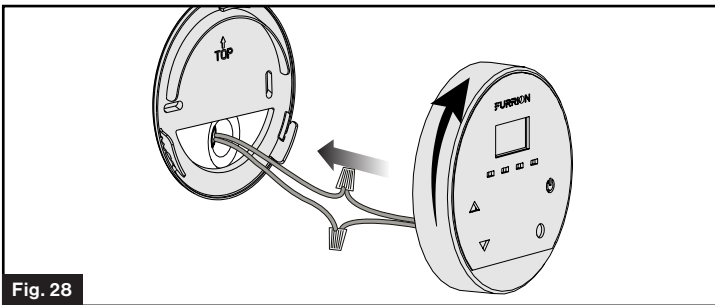

Fig. 28
3. Tuck wires into the wall opening. Install the wall controller cover and push to secure into place clockwise. (Fig. 28).